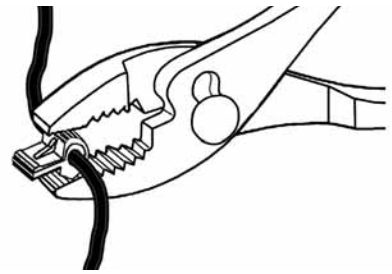

FIGURE 70
- 1.) USING PLIERS, ATTACH ONE SUPPLIED 3M CRIMP LOCK TO THE 12 VDC POWER SOURCE BLUE/BLACK WIRE AND ANOTHER ONE TO THE BLACK WIRE APPROXIMATELY 10 TO 20 MM FROM THE HARNESS BREAKOUT. PLACING THE 3M CRIMPS IN THIS LOCATION WILL FACILITATE RE-ASSEMBLY. (SEE FIGURES 70 AND 71)